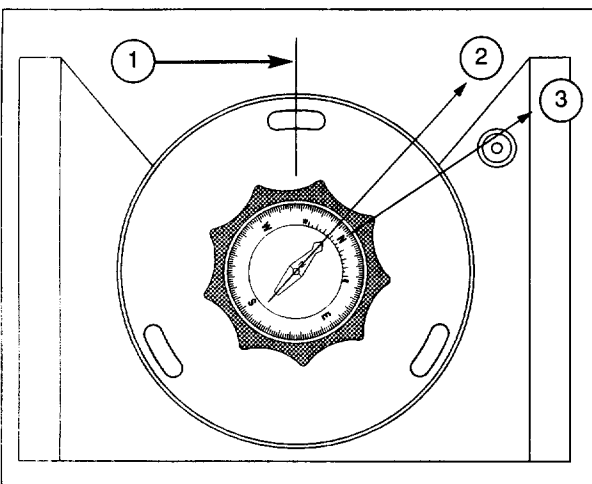

Fig. 7: Superwedge. (1) Centerline of Wedge; (2) Magnetic North; (3) True North.
- b. Rotate the knob/compass so that the magnetic pointing arrow lies directly over the painted black orientating arrow (Fig. 7). The "North" position on the direction scale (and the point on the knob/compass) now point directly north.